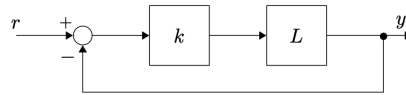

Figure 22: Closed-loop system  $T$ . Linear time-invariant system  $L$  and proportional gain  $k$ .
**Problem:** Consider the closed-loop system  $T$  shown in Figure 22, where  $L$  represents a linear time-invariant plant and  $k \in \mathbb{R}$ . We denote the transfer function corresponding to the system  $L$  by  $L(s)$ .